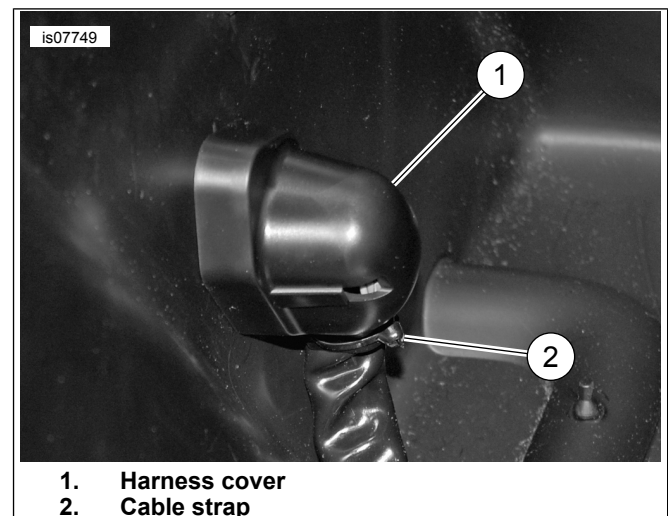

Figure 5. Harness Cover
9. See Figure 5. Snap the harness cover (1) over the 18-way connector. Secure with a cable strap (2). The harness routes inside the saddlebag after the amplifier is mounted.